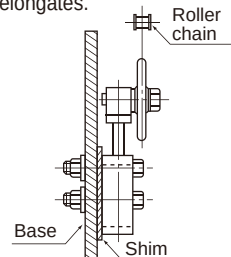

Fig. 6 Tightening the tensioner
- 3) Temporarily tighten the tensioner with two bolts. At this time, adjust with a shim, etc., so that the center of the idler sprocket and roller chain are aligned. (Fig. 6)